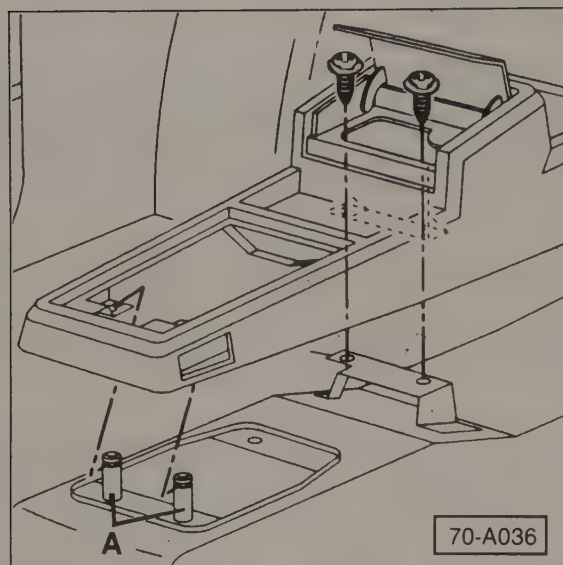

Fig. 4-2. Second type of center console showing screws to be removed. Pull console up off retaining guides A.
2. Remove the center console. On manual transmission cars first remove the gearshift lever knob and the gearshift boot. On automatic transmission cars remove the selector lever cover plate. Finally, depending on the center console as shown in Fig. 4-1 and Fig. 4-2, remove the retaining screws and partially remove the console. Separate any electrical connectors from behind.